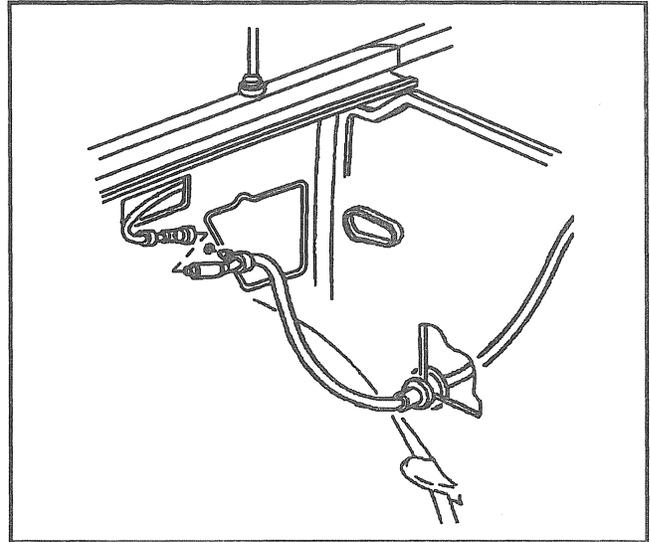

Figure 22—Antenna Extension Cable Routing to Antenna
4. Extension cable from antenna (Figure 22).
3. Extension cable to antenna (Figure 22).